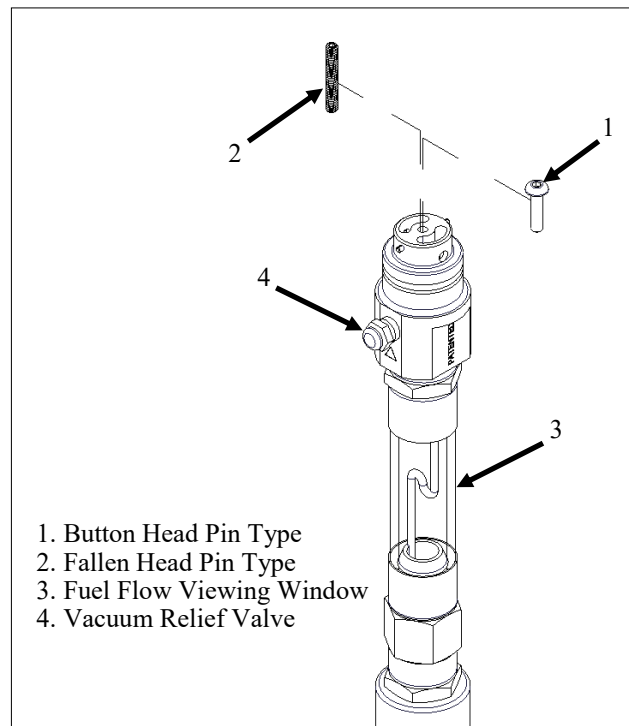

Figure 3-5 Fuel Probe and Pins
Use the following steps in conjunction with Figure 3-5 to determine proper Fuel Probe Pin length.
- o. Observe fuel flow in Fuel Flow Viewing Window; (see Figure 3-5)
- p. To stop draining, push and hold Vacuum Breaker Valve (see Figure 3-5), unlock probe and pull out of drain tool.